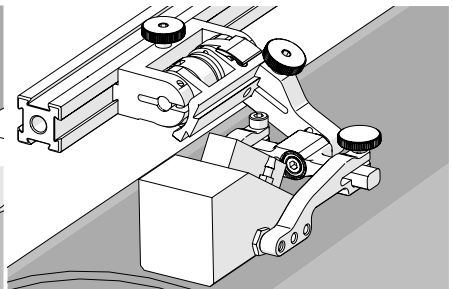

Fig. 54 - Spring loaded scan position
4. Gently lower the probe holder and wedge to the scanning surface (*Fig. 54*).